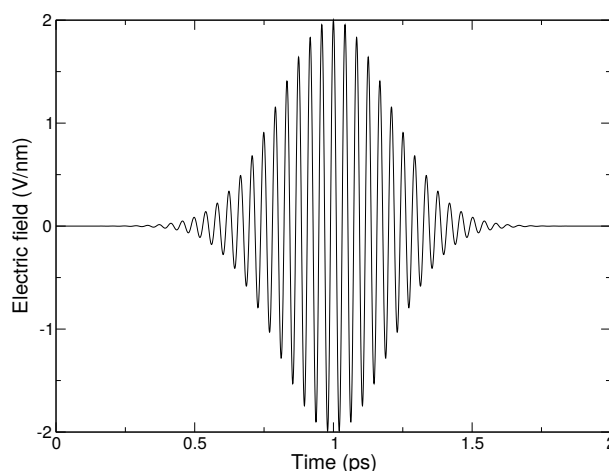

Fig. 5.45: A simulated laser pulse in GROMACS.
This simulated laser-pulse was applied to simulations of melting ice 146 (page 509). A pulsed electric field may look like Fig. 5.45. In the supporting information of that paper the impact of an applied electric field on a system under periodic boundary conditions is analyzed. It is described that the effective electric field under PBC is larger than the applied field, by a factor depending on the size of the box and the dielectric properties of molecules in the box. For a system with static dielectric properties this factor can be corrected for. But for a system where the dielectric varies over time, for example a membrane protein with a pore that opens and closes during the simulation, this way of applying an electric field is not useful. In such cases one can use the computational electrophysiology protocol described in the next section (sec. Computational Electrophysiology (page 455)).
yields an pulsed-oscillating electric field with  $E_0 = 2$  V/nm,  $\omega = 150$ /ps and  $t_0 = 5$  ps and  $\sigma = 1$  ps. Read more in ref. 146 (page 509). Note that the input file format is changed from the undocumented older version. A figure like Fig. 5.45 may be produced by passing the `-field` option to `gmx mdrun` (page 111).